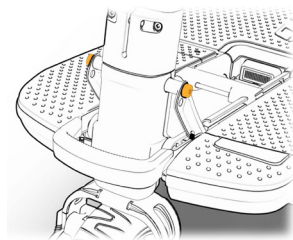

Figure 26 Steering Rod angle adjustment screws
1. ATTO must be in the opened position in order to adjust the tiller angle. Once opened, locate and release the two Allen (hex) screws (see highlighted in red Figure 26). Make sure you keep holding the tiller in upright position (you must hold the tiller to prevent it from